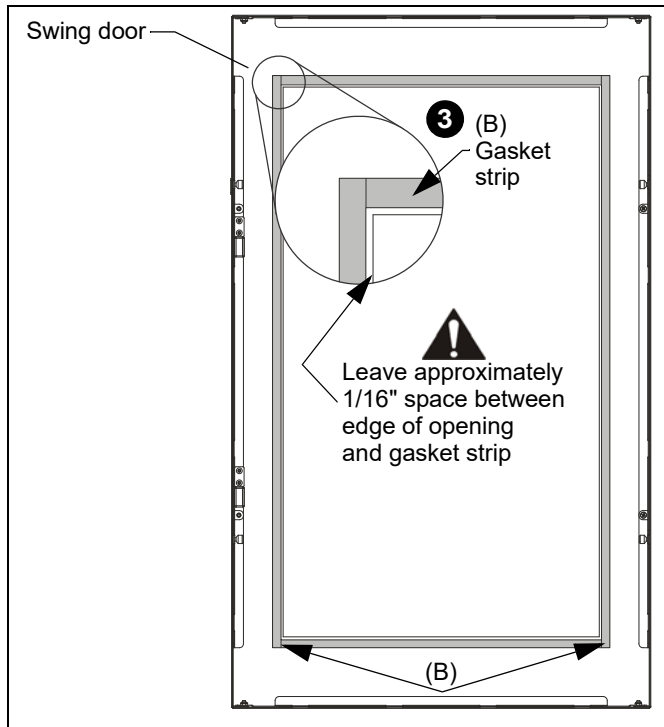

Figure 7
2. Clean the inside edge of the swing door (approximately one inch depth around entire opening) with an alcohol wipe or something similar, and let dry. (See Figure 7)
3. Install gasket strip (B) around inside edge of swing door opening. (See Figure 7)